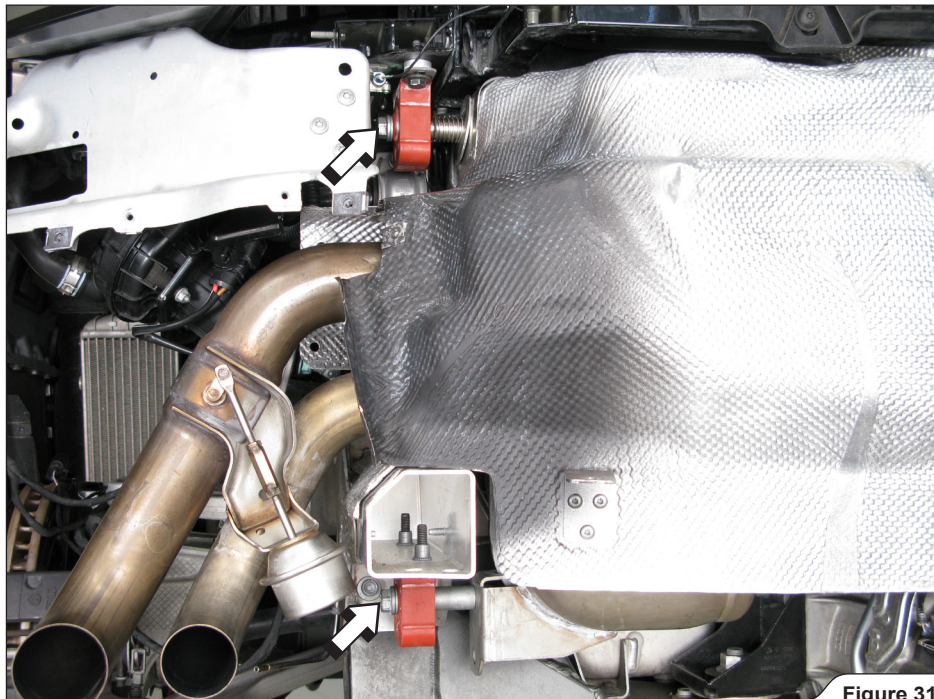

Figure 31
22. Unscrew the marked bolts on both sides of the muffler and carefully remove the muffler off the vehicle (**Figure 31**).